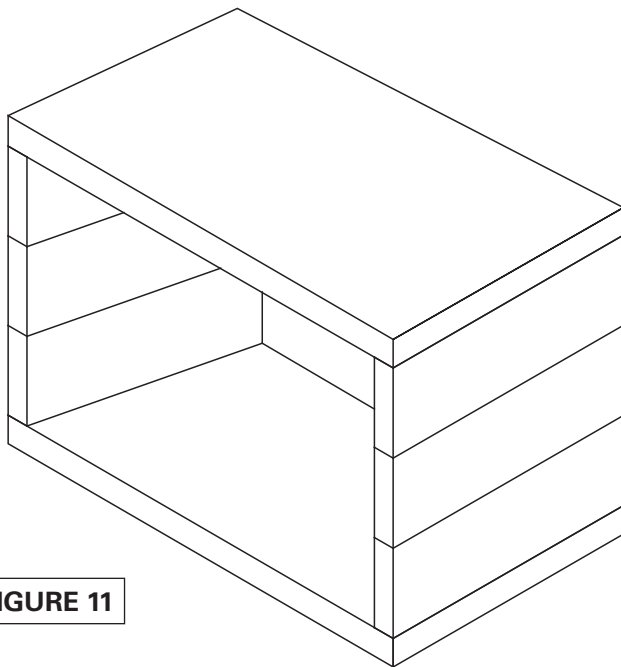

FIGURE 11
4. Once the third, or top course of side walls and back wall are set in place their top surfaces are to be grouted with mortar to receive the Vent-Free firebox top plate. Set the top plate upon the completed side wall/back wall assembly seeing to it that the grouted contact surfaces are properly sealed. This completes the assembly of the Vent-Free firebox rough box components. **(Figure 11)**